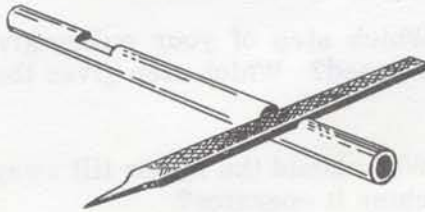

Figure 3
3. With a heavy file, notch the rail so the bolt heads will not protrude above the surface of the rail (Figure 3).